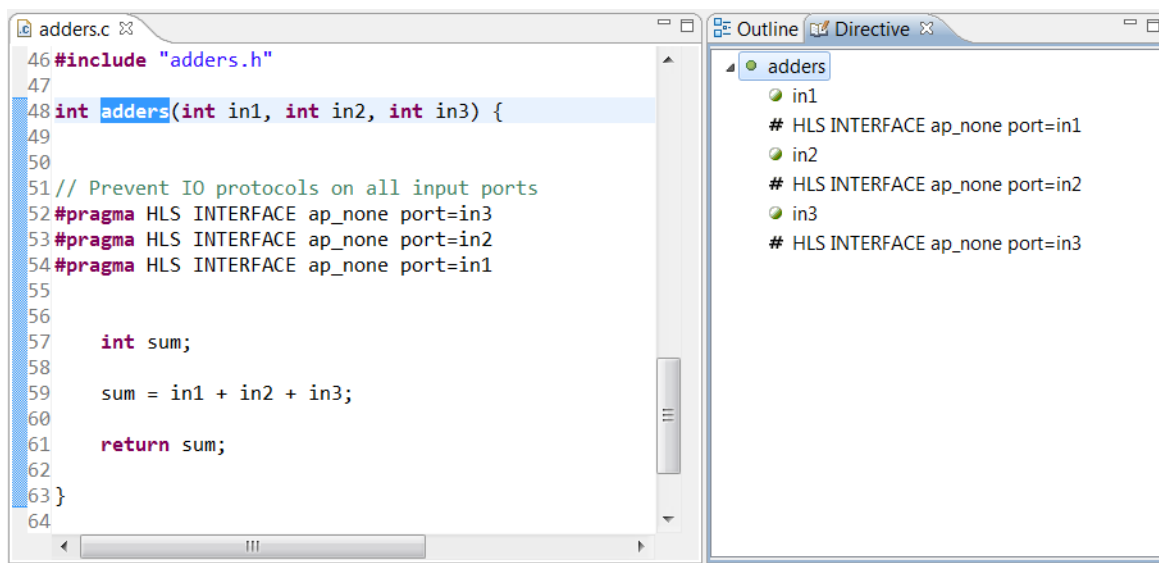

Figure 4-6: Top-Level Function Selected
4. Activate the Directives tab and select the top-level function `adders`, as shown in Figure 4-6.